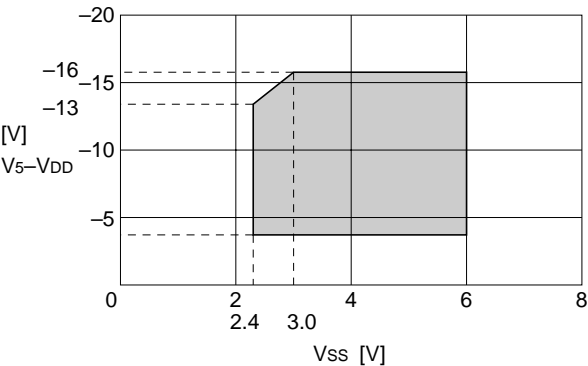

Figure 11
- *2. The operating voltage range of the V_{SS} and V_5 systems (see Figure 11). The operating voltage range is applied if an external power supply is used.
- *3. Pins A0, D0 to D7, \overline{RD} (E), \overline{WR} (R/W), $\overline{CS1}$, CS2, FR, SYNC, M/S, C86, SI, P/S, T1 and T2.
- *6. Pins A0, \overline{RD} (E), \overline{WR} (R/W), $\overline{CS1}$, CS2, CL, M/S, \overline{RES} , C86, SI, SCL, P/S, T1, and T2.
- *8. The resistance when the 0.1-volt voltage is applied between the “On” output terminal and each power terminal (V1, V2, V3 or V4). It must be within the operating voltage (2).